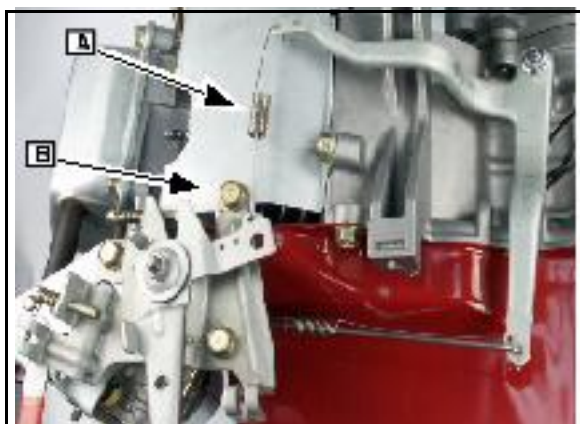

Fig. 6
1. Remove return spring ([A] Fig. 6) and set aside.
2. Remove mounting bolt ([B] Fig. 6) and set governor control bracket aside.